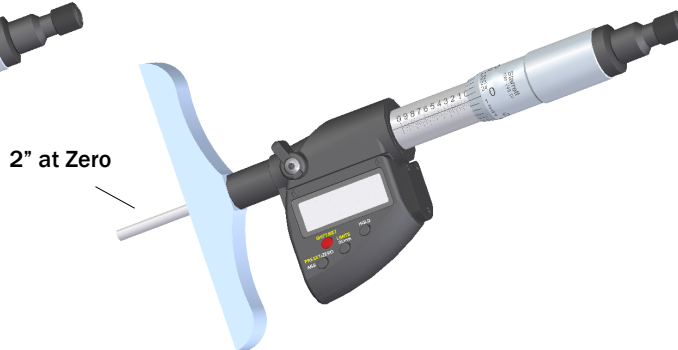

Fig.14B, 749.1BZ 2"-3" Rod
3. Fig.14B, Shows a 2"-3" rod, In this case you will add 2" to the reading on the Micrometer head.